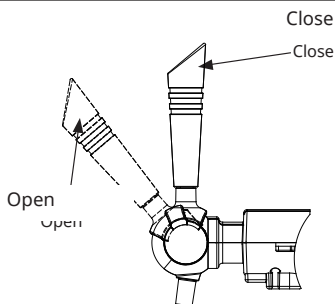

Figure 10
8. You can now use the tap to press out the beer (pull the handle forward 45 degrees as shown in Figure 10).
Note: When connecting the wine outlet connector to the wine dispenser, ensure that the wine dispensing tap (as shown in Figure 10) is closed.